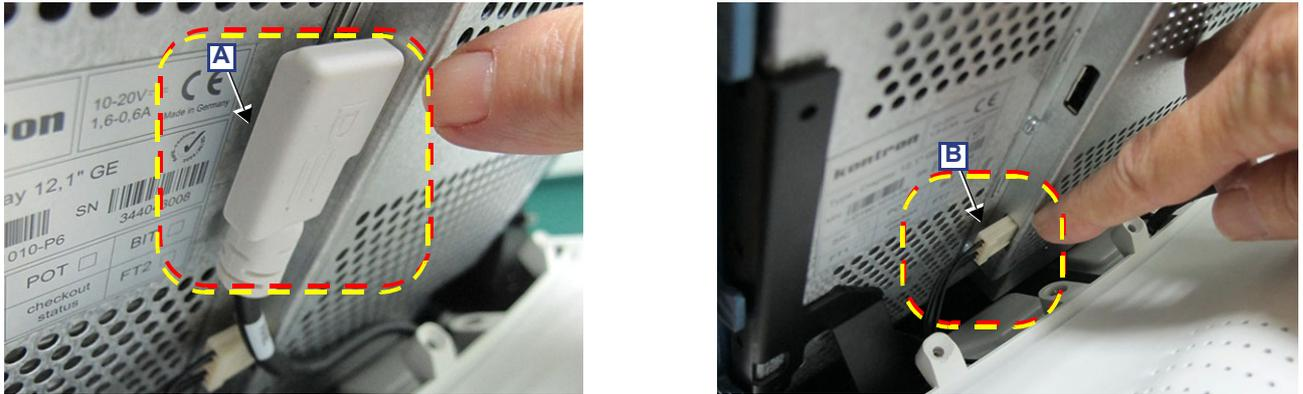

Figure 8-69 Disconnecting the Touch Screen Cables
DP-to-Touch Screen [A] and Power-to-Touch Screen [B] - shown in Figure 8-69.
- 4.) Reconnect the Ground cable - Figure 8-69.